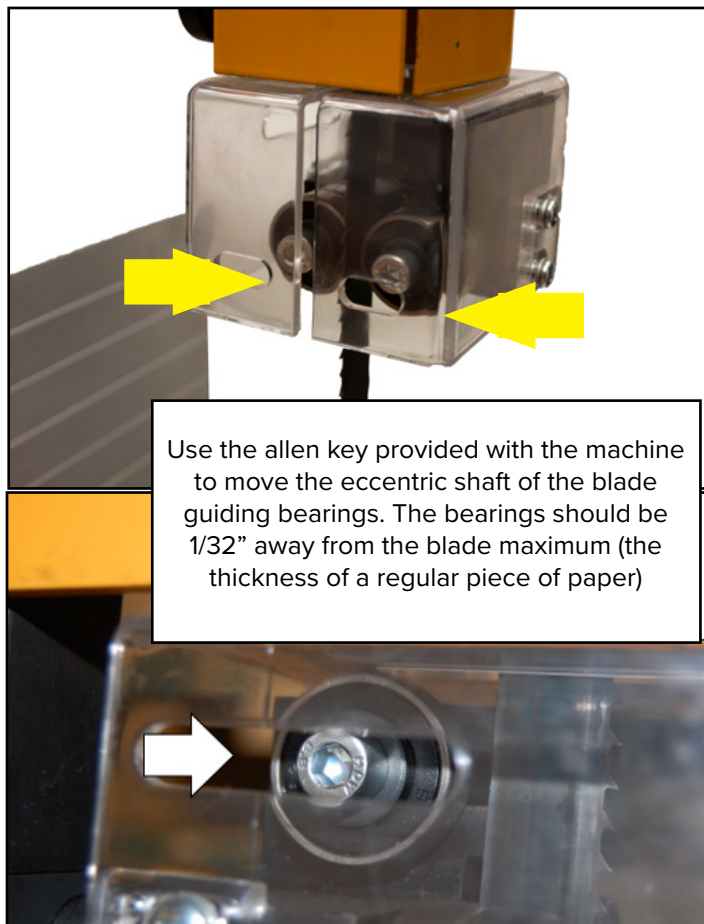

Figure 17: Adjusting upper Blade Guide.
- Set the roller guides to within 1/32" of the blade by releasing the lock handles Fig. 17 (A) and pushing the ends of the guide shafts Fig. 17 (B) towards the blade.